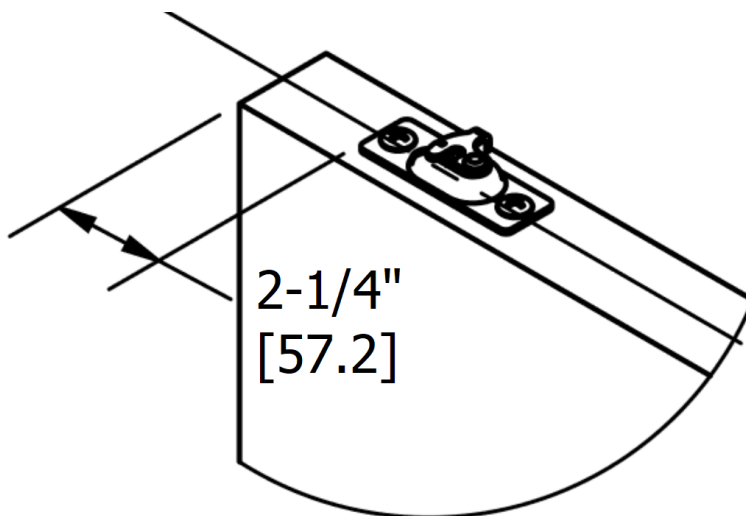

Figure 2
- Position both hanger plates center of the top door edge thickness. One 2-1/4" from the left door edge and the other 2-1/4" from the right door edge. Make sure the slots on both hanger plates are facing the pocket side door edge. See Figure 2.